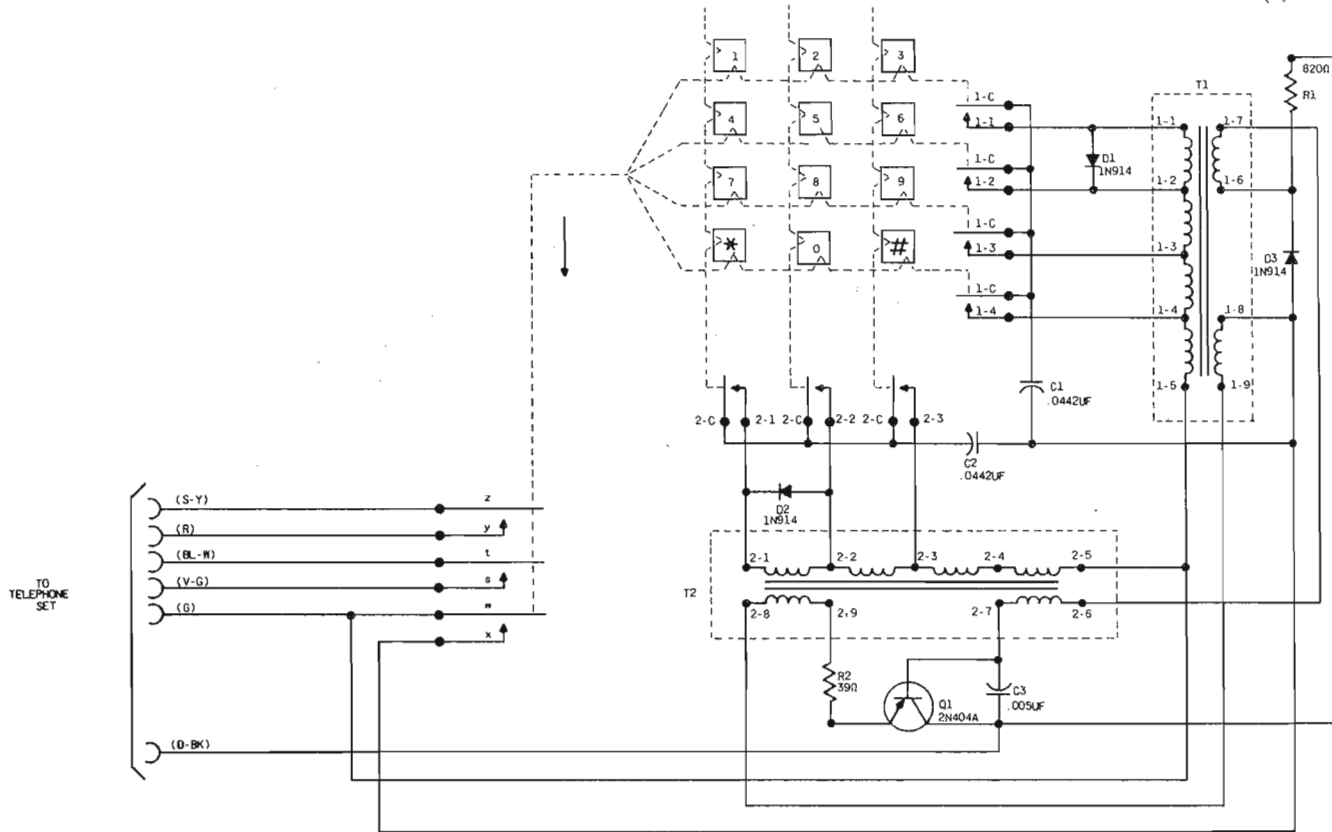

Fig. 9 - NE-35Q3F Dial Schematic (MD)
- Fig. 9 – NE-35Q3F Dial Schematic (MD)